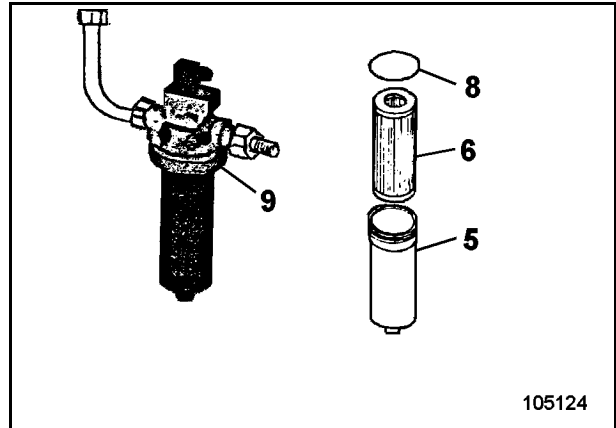

Fig. 3-140:
- Unscrew filter housing (5, Fig. 3-140:).
- Withdraw filter element (6) from filter housing (5).
- Clean filter housing (5) and the sealing face at the filter head (9) with white spirit or paraffin oil.
- Insert new filter element into filter housing (5) and refit to the filter head with new, lightly oiled sealing ring (8).